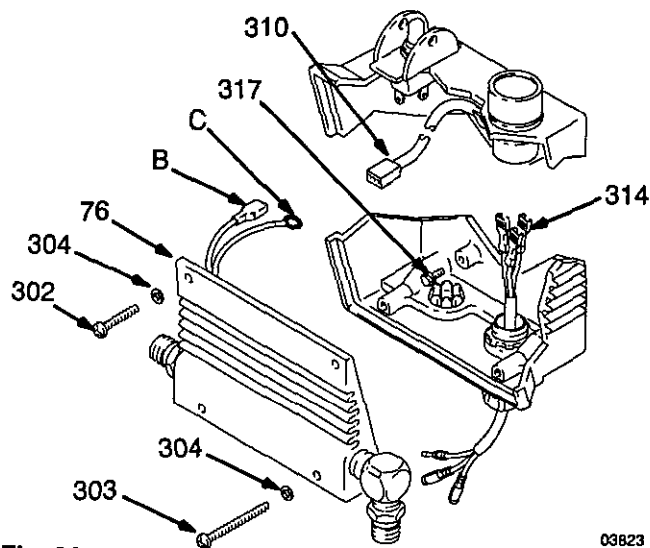

Fig. 23
2. Remove the four mounting screws and washers (302, 303, 304) from the pressure control cover (76). See Fig. 23.
3. Carefully remove the pressure control cover (76) so as not to stress the cables.
4. Disconnect the black and white wires of the pressure control cable (314) from the pressure control cover.
5. Disconnect the potentiometer cable assembly (310) from the pressure control cover.
6. Disconnect the white power lead (B) from the ON/OFF switch.
7. Loosen the ground terminal screw (317) and disconnect the ground lead (C).